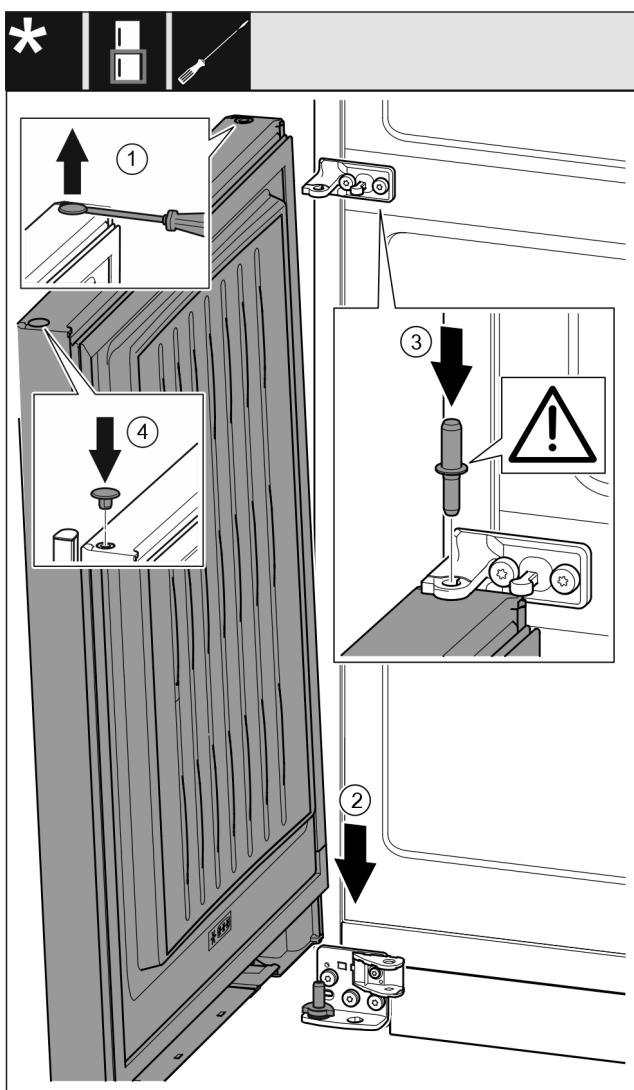

Fig. 39
- ▶ Carefully lift up the plugs with a slotted screwdriver and pull them out. Fig. 39 (1)
- ▶ Position the door from above onto the lower bearing pins. Fig. 39 (2)
- ▶ Insert the center bearing pin through the center bearing bracket into the bottom door. Make sure that the latching lug is pointing to the rear. Fig. 39 (3)
- ▶ Insert the plugs again on the other side of the door. Fig. 39 (4)